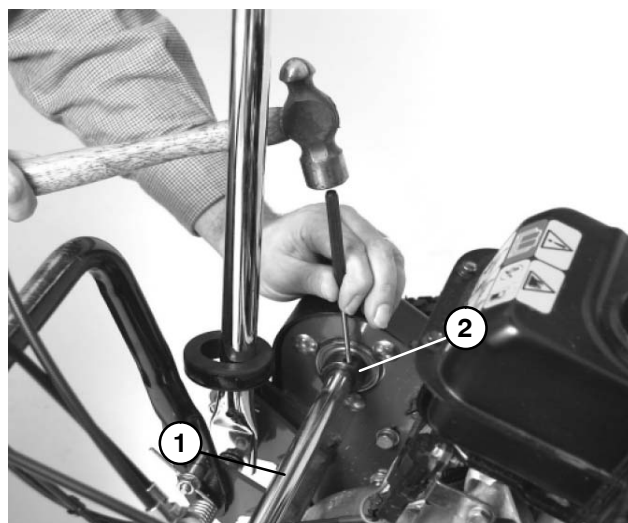

Figure 36
- B. Lock collars by striking with a punch in the direction of shaft rotation (Fig. 36).